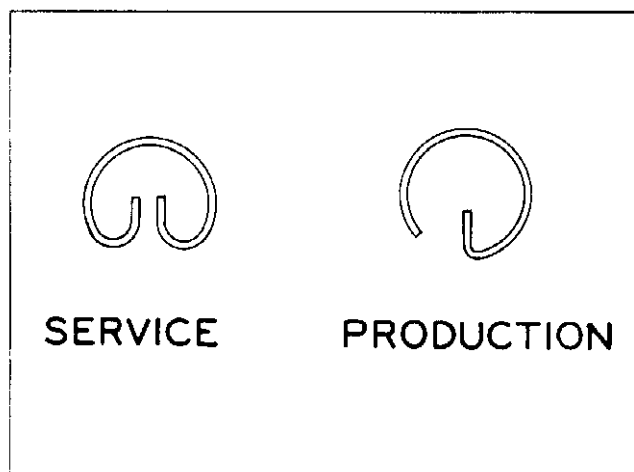

Fig. 6-58 Service and Production Type Snap Rings
**NOTE:** Production snap rings have one prong, service rings have two prongs (Fig. 6-58). Production engines may be equipped with either one prong or two prong snap rings. It may be necessary to use a brass drift to tap pin out of piston pin bosses.